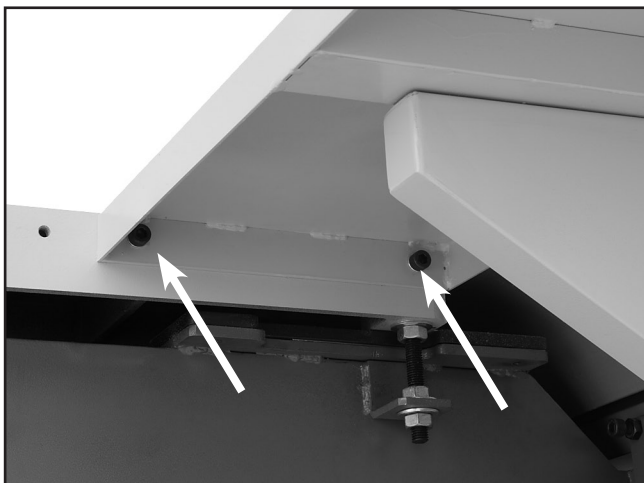

Figure 20. Small extension table attachment.
2. Attach the small extension table with two M10-1.5 x 20 cap screws, lock washers, and flat washers as shown in **Figure 20**. *Note—Get assistance positioning the tables and holding them in place while installing.*